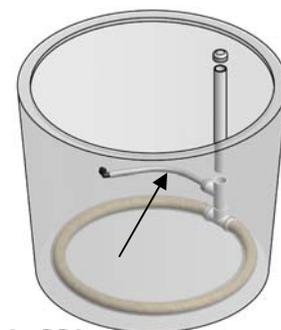

Fig. 2—DR2
4. **DR2**— Orient the overflow tube (C) as shown in figure 2. The flexible overflow tube should should not kink or bend, and should be level. Glue the overflow tube assembly onto the base using ABS glue. Drill a 1" hole in the planter 9" from the bottom of the pot at the location of the end of the drain tube (the drainage head), assuming the base is sitting on the bottom. Remove the rubber grommet from the elbow at the drainage head, and slip the grommet into the hole. Make sure that the grommet is smoothly seated. Push the drainage head through the grommet (use soapy water to allow it to slip through if necessary). Measure and cut the drain pipe (B) so that the bottom of the cap is above the soil level. Glue the pipe into the base using ABS glue.